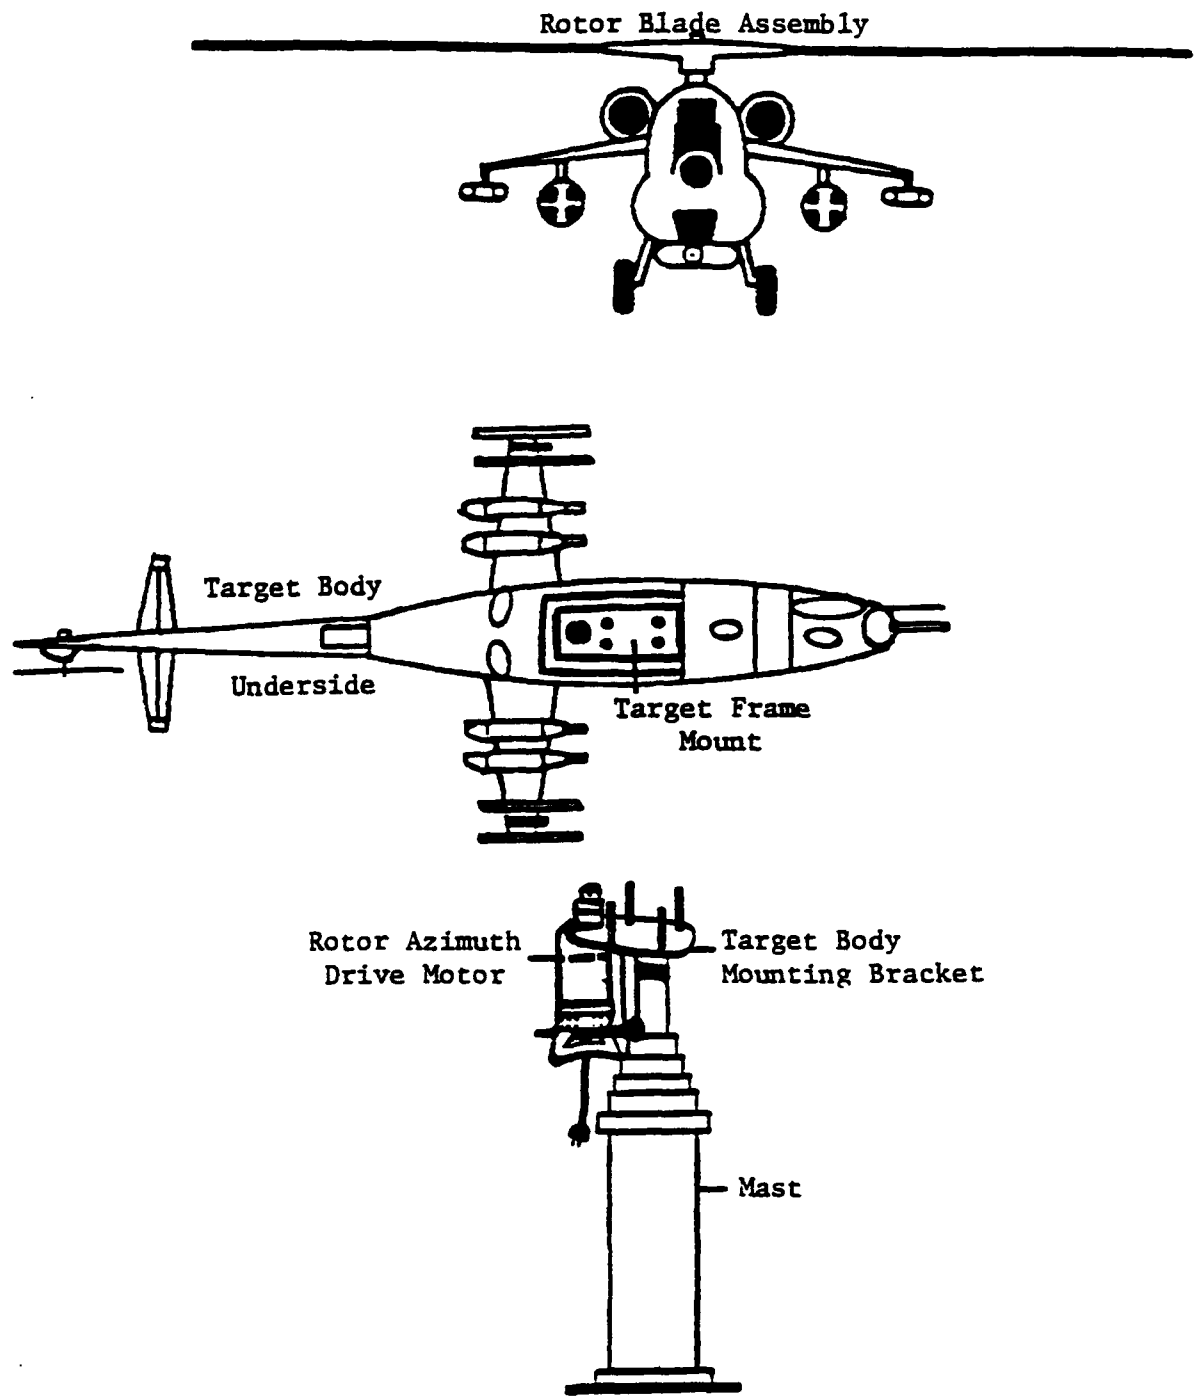

Figure 2.2.3-1. Helicopter mounting.
2. Place the proper main rotor drive assembly with drive motor mount in the mounting area on the helicopter body. Align the four mounting bolts with the helicopter body. Attach washers and nuts and tighten. Refer to Figure 2.2.3-1, and Appendix A, Mast Assembly.
3. Lift the helicopter body over the mast and bolt it to the mounting bracket attached to the mast. Insert the rotor blade into the azimuth drive motor and tighten down rotor shaft using the chuck key. Refer to Figure 2.2.3-1; more detail on the assemblies can be found in Appendix A.